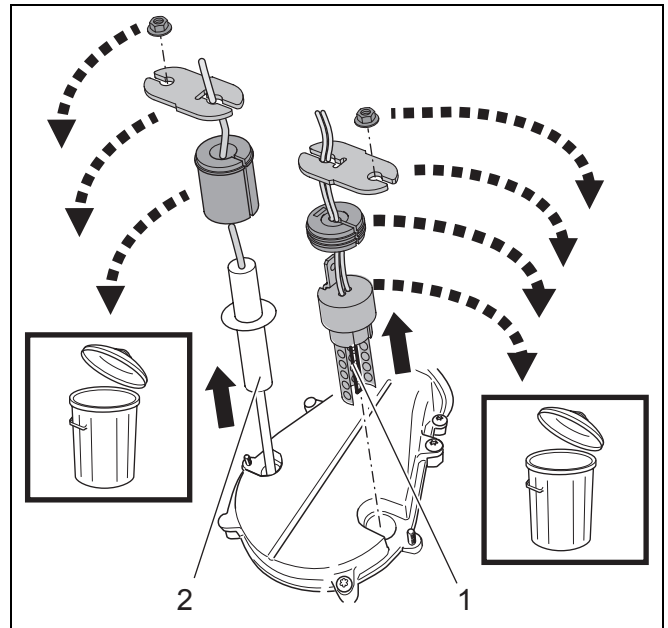

fig. 55 Remove the ignition unit and ionisation electrode
- Seal ignition unit (→ fig. 55),
- Seal ionisation electrode (→ fig. 55),
- Remove the ignition unit (→ fig. 55, item 1) and ionisation electrode (→ fig. 55, item 2).